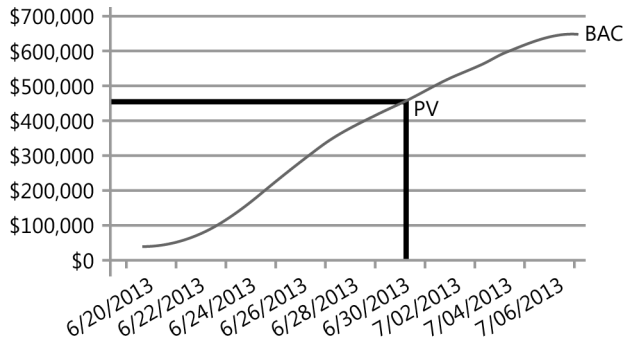

FIGURE 5-4 The project cost baseline shows Planned value (PV) and budget at completion (BAC).
- **Planned value (PV)** The amount of value that you should have earned by this time in the project. Because the total *planned value (PV)* for a project equals the budget at completion (BAC), you can determine the planned value by simply determining how far through the project you are in relation to time, and mapping this back to the approved cost baseline to establish the planned value. Figure 5-4 demonstrates how to determine the PV from the BAC.